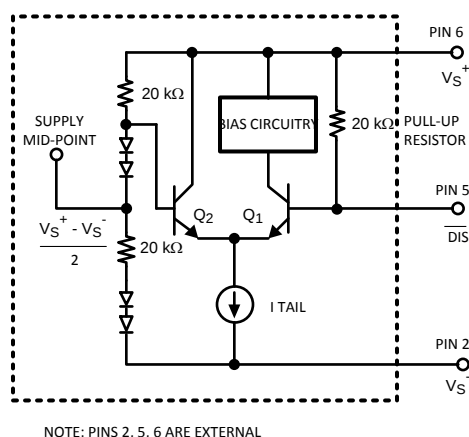

Figure 22. $\overline{\text{DIS}}$ Pin Simplified Schematic
The LMH6704 has a TTL logic compatible disable function. Apply a logic low (<.8V) to the DS pin and the LMH6704 is disabled. Apply a logic high (>2.0V), or let the pin float and the LMH6704 is enabled. Voltage, not current, at the Disable pin (DS) determines the enable/disable state. Care must be exercised to prevent the disable pin voltage from going more than .8V below the midpoint of the supply voltages (0V with split supplies, $V^+/2$ with single supply biasing). Doing so could cause transistor Q1 to Zener resulting in damage to the disable circuit (See Figure 22 or the simplified internal schematic diagram using SOT-23 package pin numbers). The core amplifier is unaffected by this, but the disable operation could become permanently slower as a result.